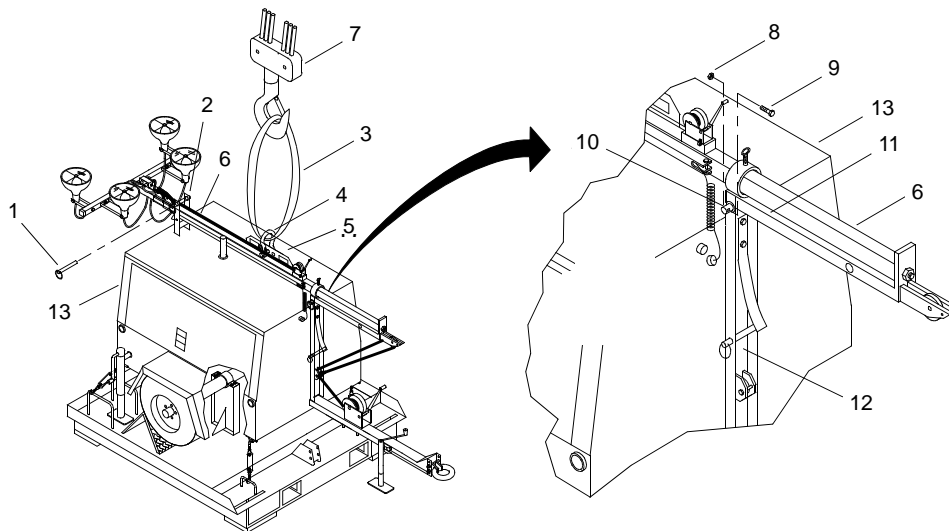

Figure 6. Tower Removal
12. Remove tower rest retaining pin (figure 6, item 1) from tower rest (figure 6, item 2).
13. Attach 5,300 lb sling (figure 6, item 3) and shackle (figure 6, item 4) to lift point (figure 6, item 5) on tower (figure 6, item 6).
14. Using crane (figure 6, item 7), sling (figure 6, item 3) and shackle (figure 6, item 4), lift tower (figure 6, item 6) off tower rest (figure 6, item 2).
15. Remove nut (figure 6, item 8) and retaining bolt (figure 6, item 9) from pivot pin (figure 6, item 10).
16. Remove pivot pin (figure 6, item 10) securing tower pivot support (figure 6, item 11) to tower support (figure 6, item 12).
17. Using crane (figure 6, item 7), sling (figure 6, item 3) and shackle (figure 6, item 4), lift tower (figure 6, item 6) off light tower (figure 6, item 13).
18. Install pivot pin (figure 6, item 10) in tower support (figure 6, item 12).
19. Install retaining bolt (figure 6, item 9) and nut (figure 6, item 8) on pivot pin (figure 6, item 10). Tighten nut (figure 6, item 8).